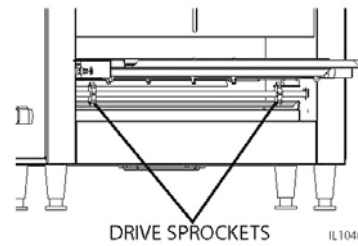

Fig 2. Conveyor Drive Sprockets
4. Now that the links have been unhooked, the conveyor can now be carefully removed from the oven. Syanding at one end of the oven. Starting with the end on the bottom, roll the conveyor belt until it has been totally removed. Take careful notice being sure not to damage the heater tubes, and working it over the drive sprockets, (see Figure 2.).
7. Reinstall conveyor belt by first laying the belt along the bottom of the oven cavity making sure the hooks on the sides are facing the inside and ends of the hooks will be pointing away from the direction of the belt so not to catch on any internal components once put back into operating. Also, being sure to properly align the belt over the conveyor drive sprockets shown in Fig 2.